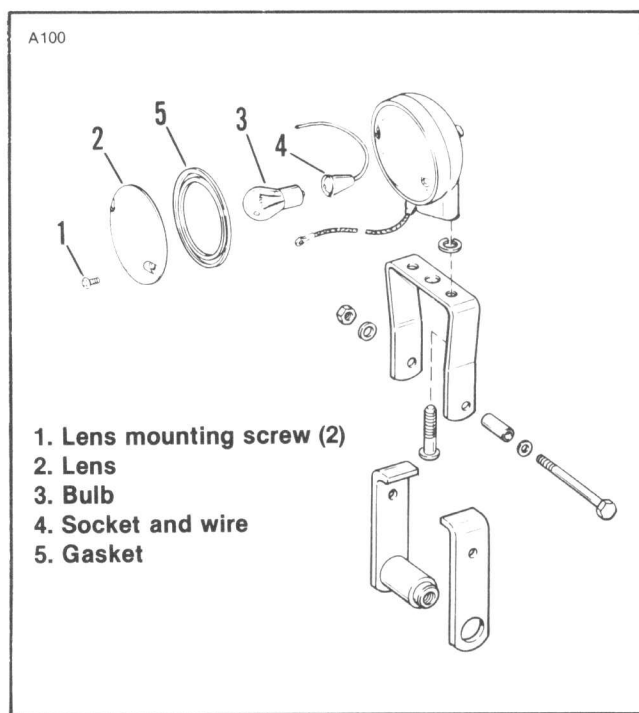

Figure 2-2. Sidecar Turn Signal
- See Figure 2-2. Remove two screws (1) and lens (2).
- Replace bulb and gasket (5) if required.
- Reinstall lens (2) and screws (1).